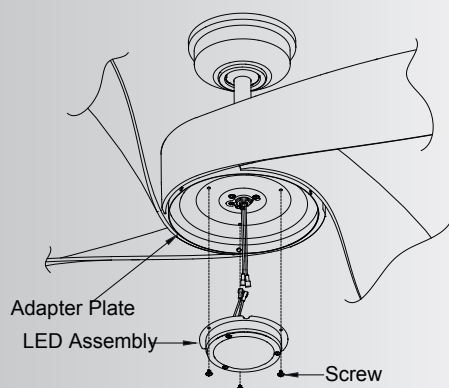

Fig. 20
**Step 1.** Remove the three screws from the adapter plate. (Fig. 20)
**Step 3.** Tuck the connections neatly into the LED assembly. Align the three holes on the LED assembly with the holes on the adapter plate. Using the three screws that you removed earlier from adapter plate, insert the three screws, attaching the LED assembly to the adapter plate. Then tighten all three screws. (Fig. 20)